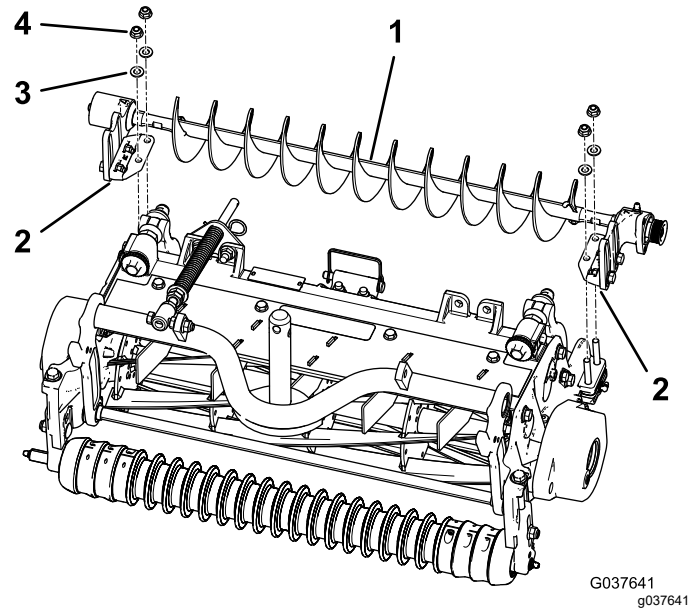

Figure 9
4. Position the left or right roller-brush assembly mounting brackets onto the roller-bracket bolts (Figure 9).